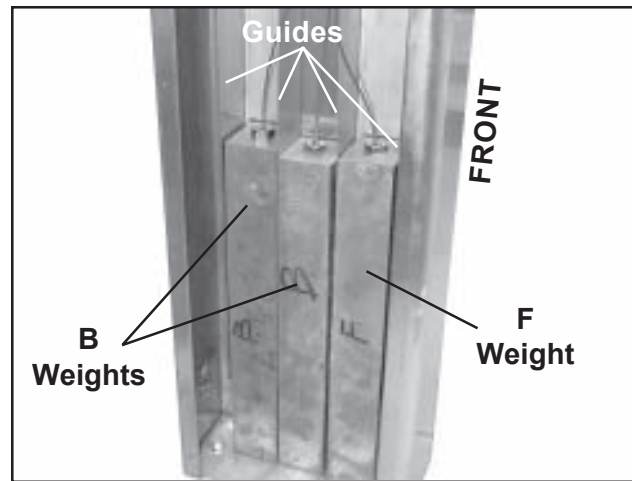

Figure 13. Weights Installed in Column
1. Hold one column interior cover over the inside face of one of the columns. The oval holes should be toward the bottom of the column. **Note:** Be sure that the counterweights are all in their correct positions and that the cables hang straight down and do not cross over the metal guides between the cables (Figure 13).